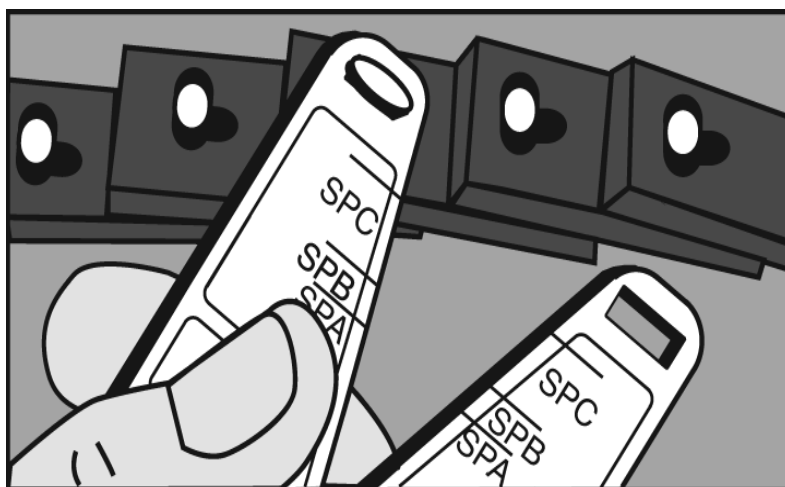

Figure 14
3. Turn 2 adjacent stud heads 90° to fasten belt – refer to Fig. 14.